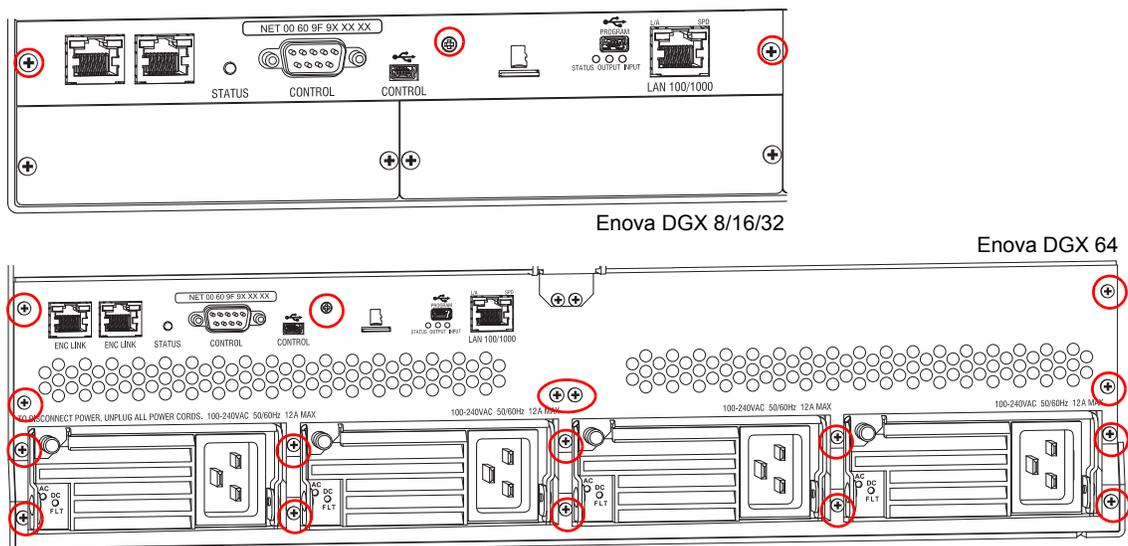

FIG. 139 Remove screws that hold faceplate
3. Remove the screws from the CPU faceplate per the locations indicated in FIG. 139: Enova DGX 8/16/32 – three screws; Enova DGX 64 – seventeen screws.